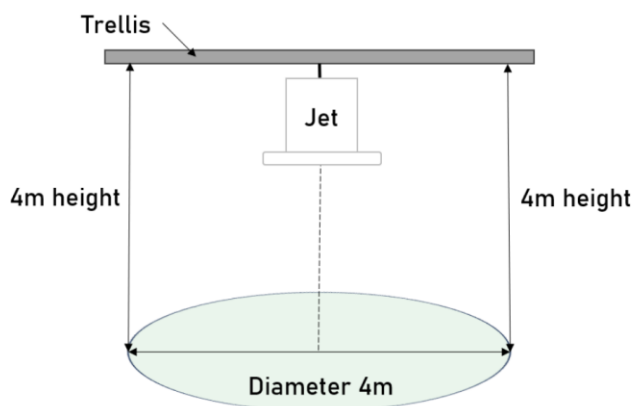

Figure 1 – VentilationJet Slim safety zone
The VentilationJet Slim must be installed at a minimum 4 meters above the ground. The height needs to be ensured for an area with a diameter of 4 meters as shown in figure 1.
- Turn the VentilationJet Slim off, if a person or animal will enter the safety zone (figure 1) with any part of their body.
- Ear protection should be used if the VentilationJet Slim is operational, and you are within the safety zone (figure 1)